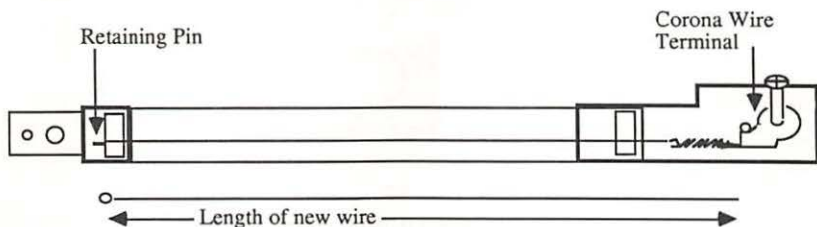

FIGURE 2-33: RESTRINGING THE TRANSFER CORONA WIRE
8. Hook the loop over the plastic retaining pin at the left end of the assembly (see Figure 2-33)